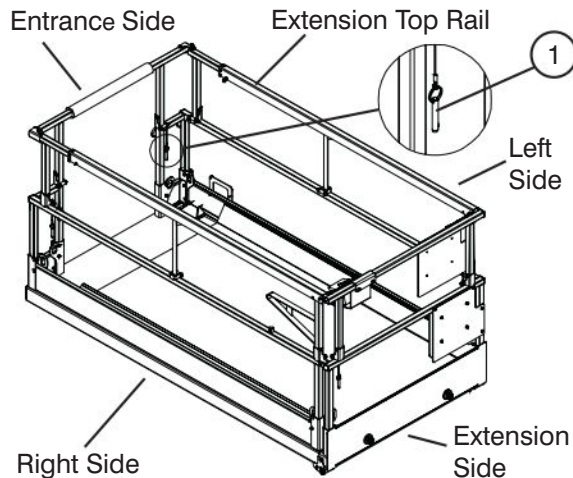

Figure 3-13a. Folding Guardrail System
- Carefully raise each guardrail up and lock into place with locking pins ensuring that the detent ball of each pin is all the way through (Refer to Figure 3-13a).